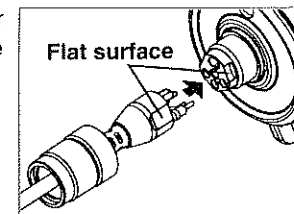

Figure 19
3. Align the flat surfaces of the 3-pin connector cable and socket and insert the cable into the socket. (Figure 19)